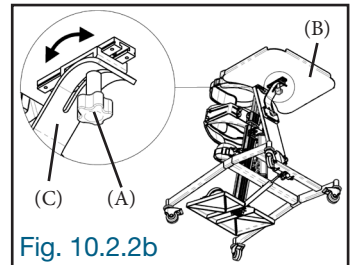

Fig. 10.2.2b
Slightly loosen the locking knob (A) under the table and tilt the table (B) up or down on the table support (C). At the desired tilt angle, tighten the locking knob (A) firmly to secure the table in place (Fig. 10.2.2b).